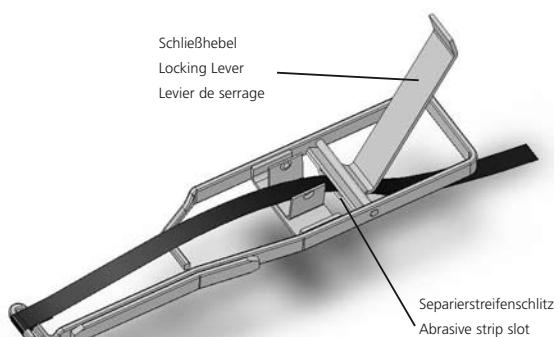

Fig. 4
- With the abrasive strip locked in the front of the instrument, slide the opposite end of the abrasive strip through the "abrasive strip slot" located on the bottom of the locking lever as shown in fig. 4.